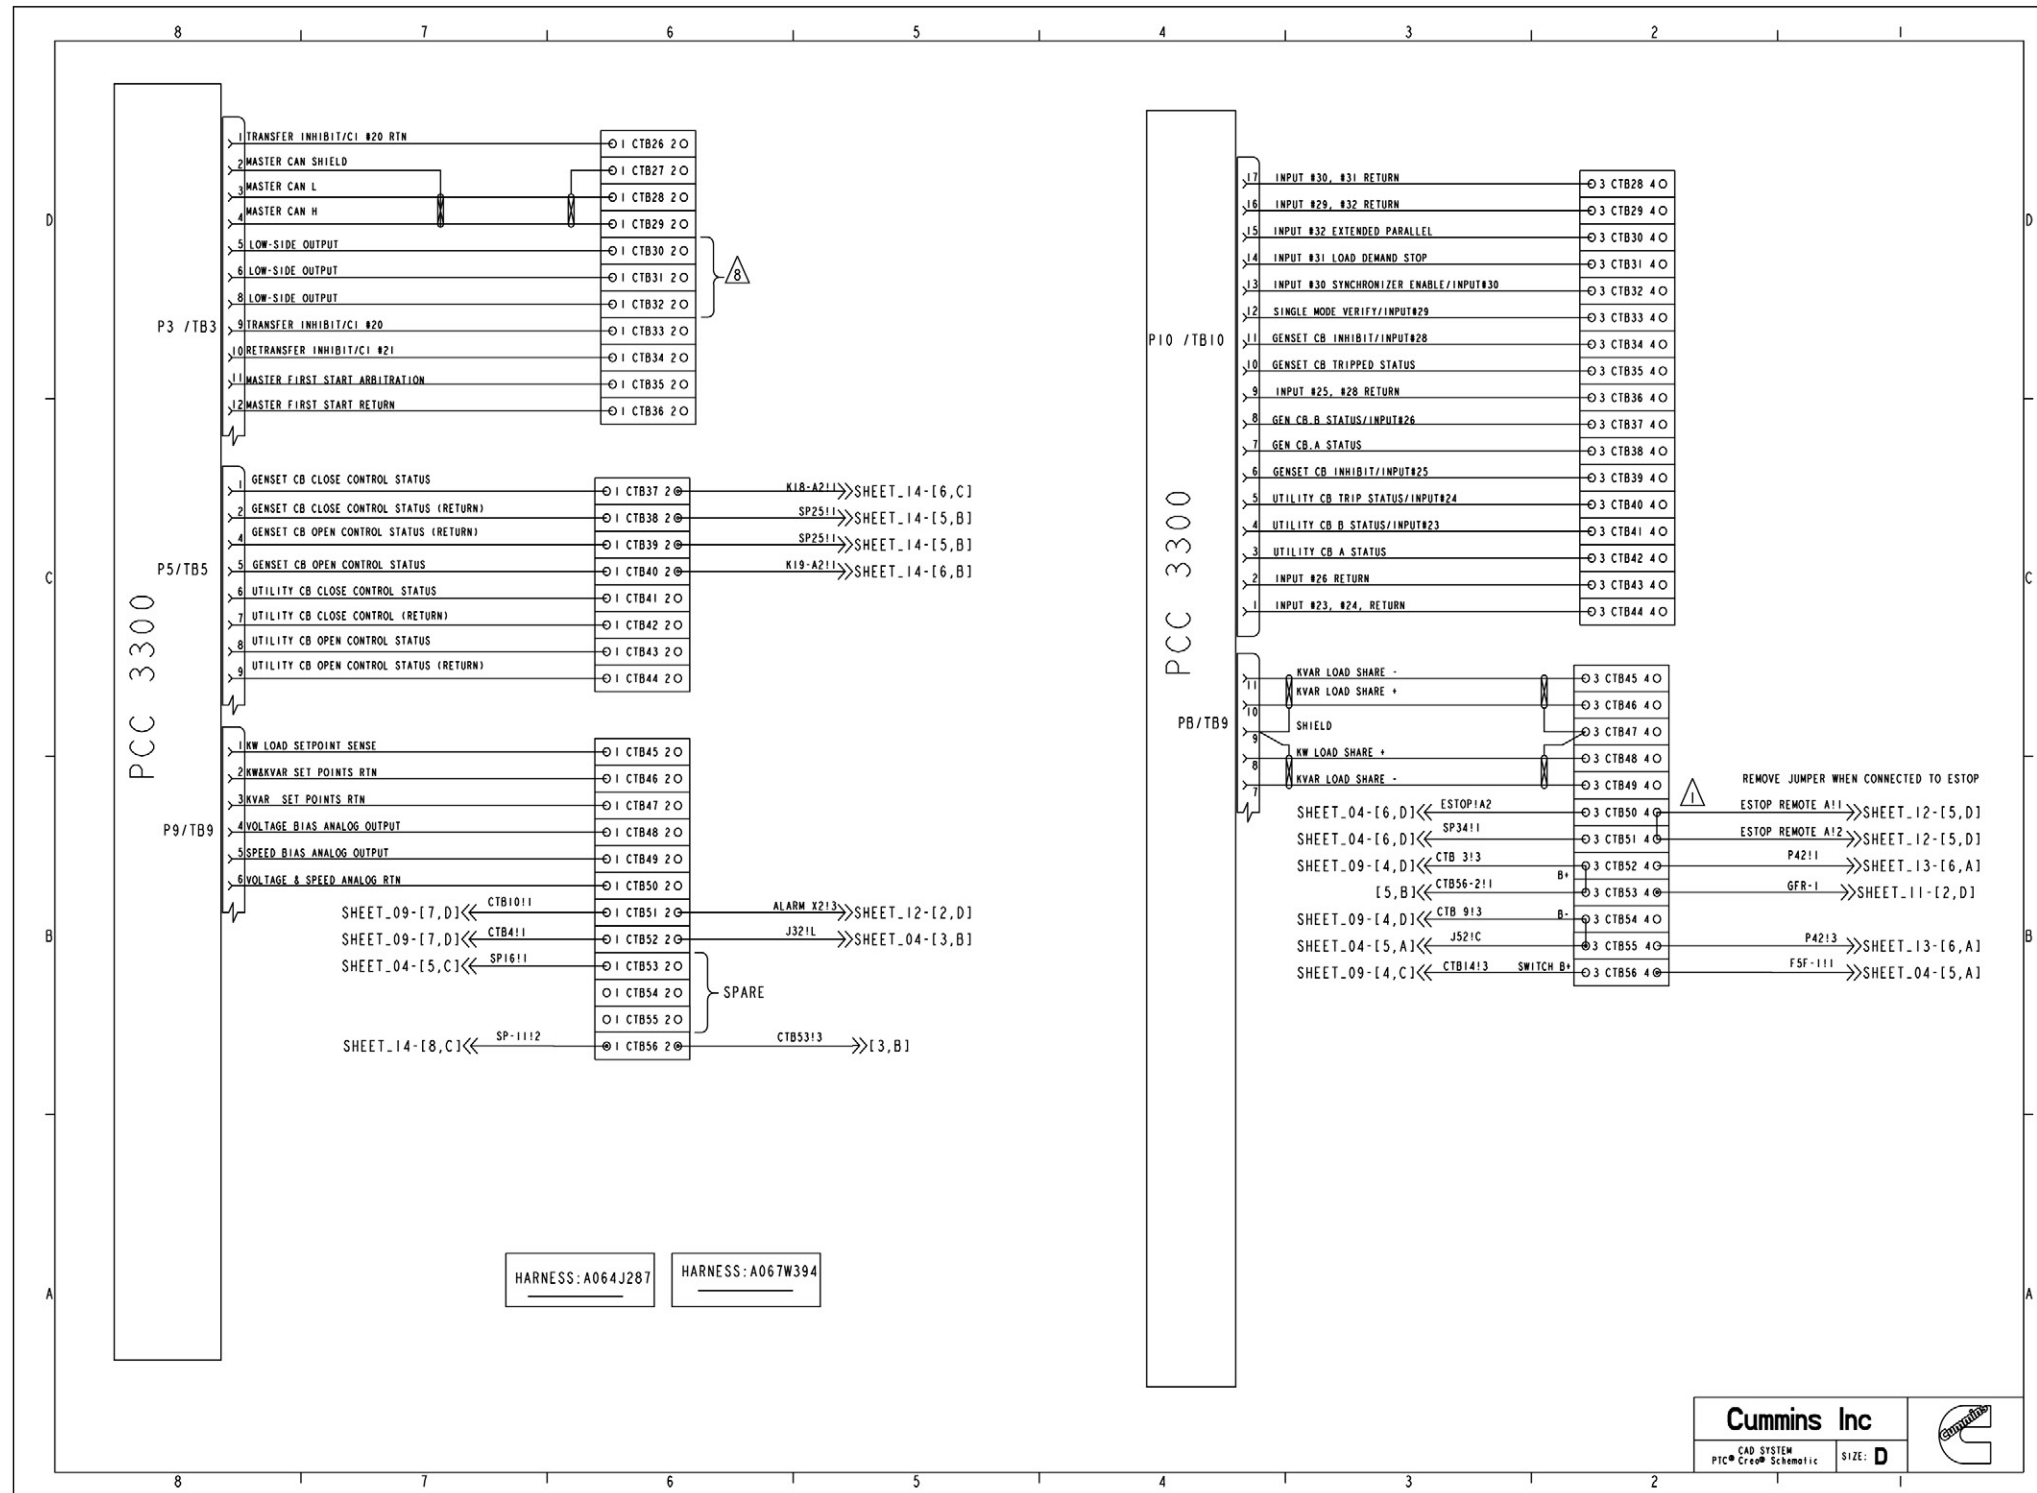

FIGURE 65. WIRING SCHEMATIC (SHEET 10)
- Figure 65. Wiring Schematic (Sheet 10) 120